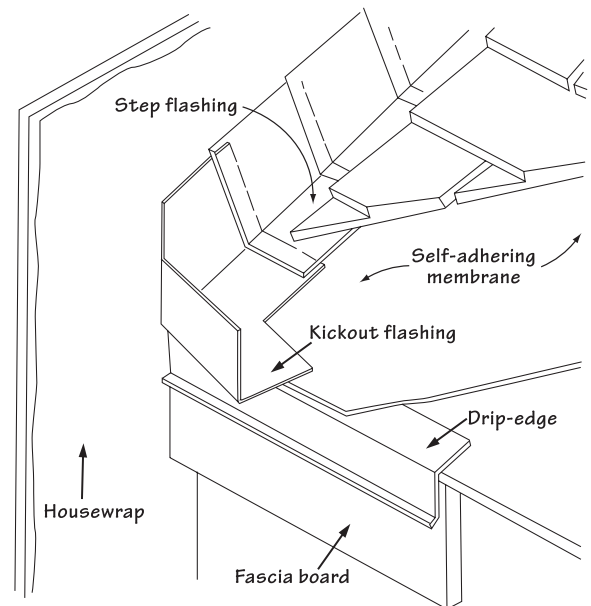

Figure 43.
- As an alternative to the diverter, create a "kickout" from metal flashing, as shown in Fig. 43.
NOTE: "Kick-out flashing" (Fig. 43) is an additional flashing strip that extends beyond the edge of the fascia that is required in some cold-climate localities.